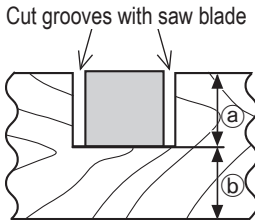

Fig. 52
Grooves in the workpiece can be cut as indicated in Fig. 52 by adjusting the 6 mm depth adjustment bolt.
- (2) Adjust to the desired cutting depth by setting the distance between the saw blade and the surface of the turntable (see ⑥ in Fig. 52).